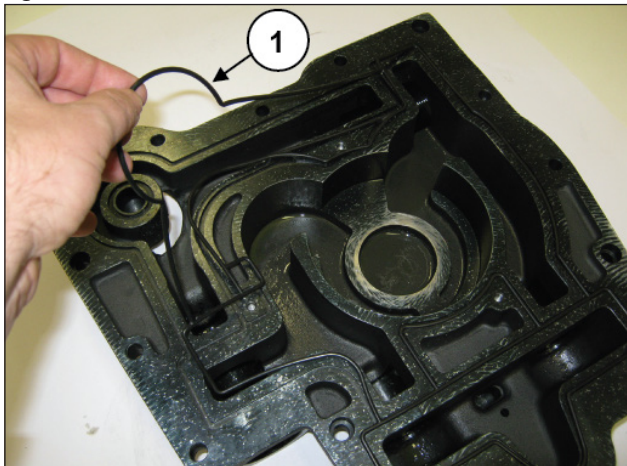

Fig. 53
Remove the shaped O-ring and renew it if necessary (pos. ①, Fig. 53).